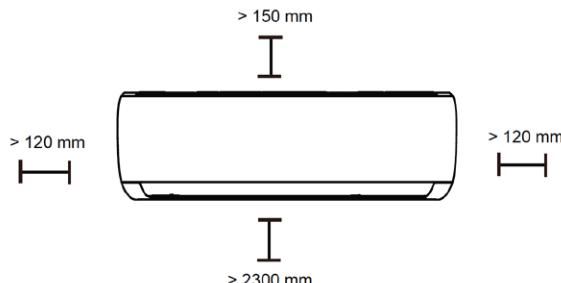

fig. 7 -
**Choice of place of installation.** In compliance with the conditions indicated in the "Installation Diagrams" section, reported in the manual of the outdoor units, position the unit as low as possible, leaving 15 cm of free space over the unit. It is recommended to observe the spaces indicated in the figure "fig. 7 -". Before fixing it to the wall, check that the wall can withstand the weight of the unit, that the air flow is not obstructed by curtains and the like and that the position is suitable for guaranteeing optimum diffusion of air in the room.